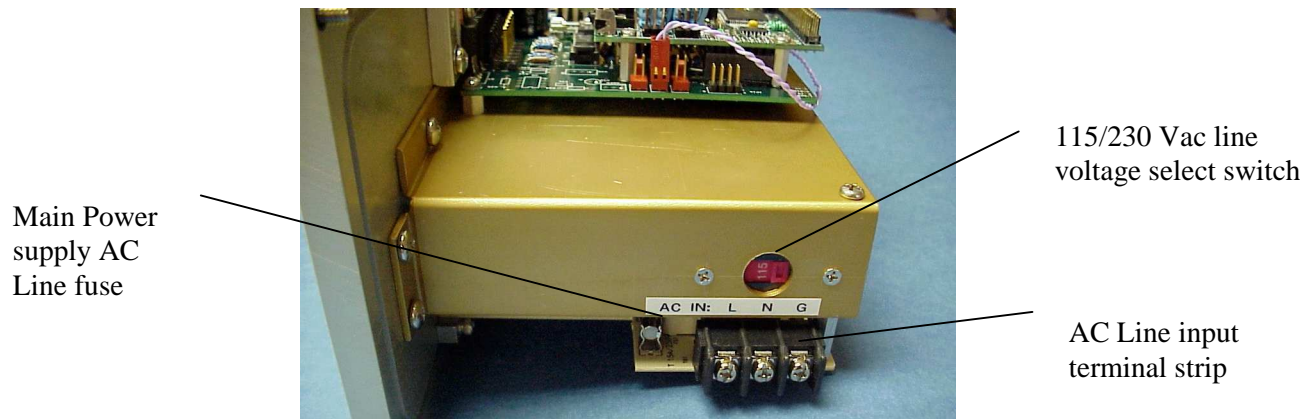

Figure 23. The line voltage switch, main AC fuse and input terminal strip. L=Line, N=Neutral and G=Ground.
- 5 Verify the position of the AC input line voltage switch, located at the AC power supply terminal strip inputs, is set to the proper voltage. See Figure 23 below for guidance, and measure the line with a DVM to be absolutely sure.
Three internal fuses protect the system from line surges and major internal component failures; two fuses are on the main PCB and the third is near the power supply as shown in Figure 23. It is important to use the same type and rating fuse when replacing them.